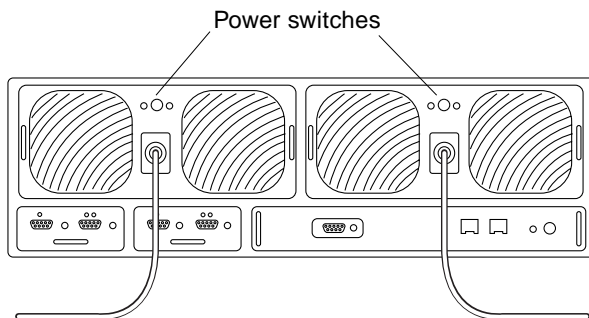

FIGURE 3-1 Power Switch Locations
3. Press the power button once on each power and cooling unit to turn the switch off (FIGURE 3-1).